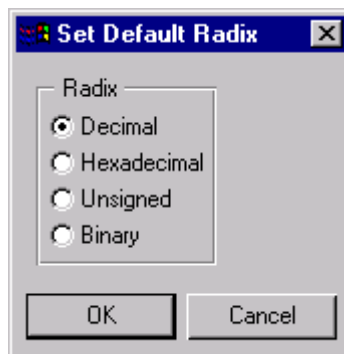

Figure 7-3. Changing the Radix of Input
1. From the **Modify** menu choose **Radix** then select **Set default**. The dialog box in Figure 7-3 appears.